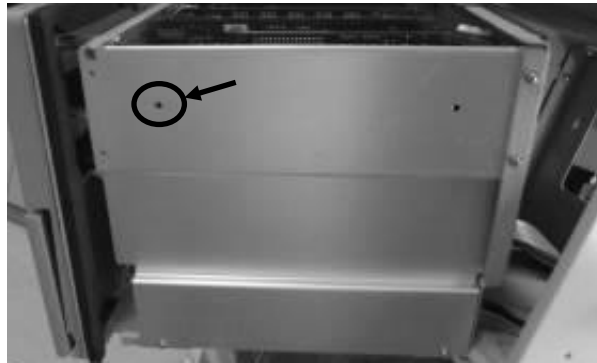

Figure 7
16. Locate the hole in the card cage shown in Figure 7 below.